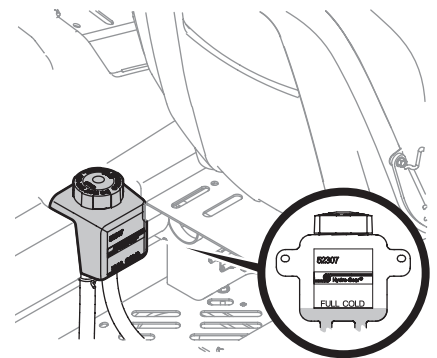

Figure 4-9
1. Pivot the operator's seat forward and clean the reservoir cap and the area around the cap to prevent debris from contaminating the transmission oil. See Figure 4-9.
2. Turn the reservoir cap counterclockwise to re-move, then check the oil level in the reservoir. Oil should be visible at the bottom of the cup, but the oil level must NOT be above the "FULL COLD" line. See Figure 4-9. DO NOT FILL THE RESERVOIR.